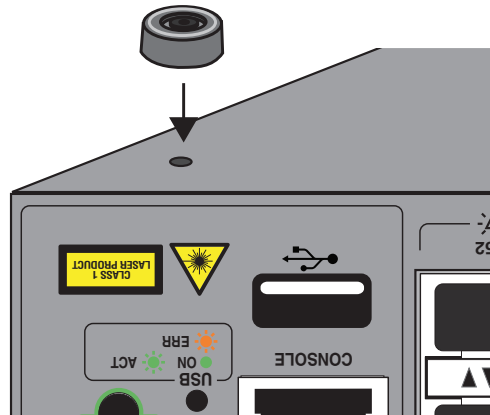

Figure 44. Placing the Bumper Foot on a Base Corner Hole
3. Place the bumper foot with rivet housing onto one of the holes in the base of the switch. Refer to Figure 44.